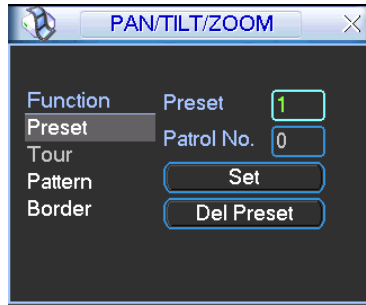
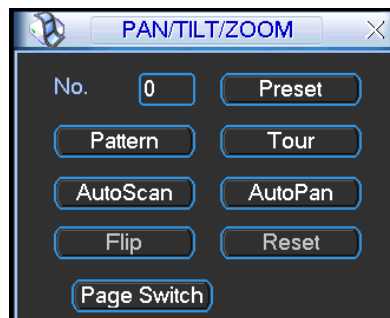
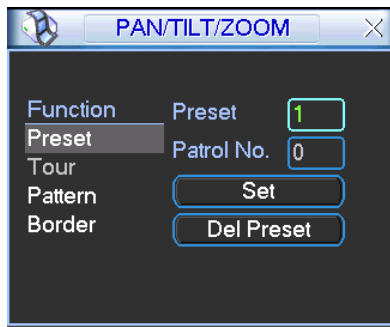

Figure 4-36
Figure 4-37
Figure 4-38
In Figure 4-33, please click the “set” button. The interface is shown as below. See Figure 4-36. Here you can set the following items:
In Figure 4-33, click page switch button, the interface is shown as in Figure 4-37.
- The following setups are usually operated in the Figure 4-33, Figure 4-36 and Figure 4-37 .
In Figure 4-36, click preset button and input preset number. The interface is shown as in Figure 4-38.
In Figure 4-37, please input preset number in the No. blank, and click preset button.
In Figure 4-36, click patrol button. The interface is shown as in Figure 4-39. Input preset number and add this preset to a patrol (tour). For each patrol (tour), you can input max 80 presets.
In Figure 4-36, input patrol (tour) number in the No. blank and click patrol button
In Figure 4-36, click pattern button and then click “begin” button. The interface is shown as in Figure 4-40. Then you can go to Figure 4-33 to modify zoom, focus, and iris.
In Figure 4-37, input mode value in the No. blank, and click pattern button.
In Figure 4-36, click border button. The interface is shown as in Figure 4-41.
In Figure 4-37, click “Auto Scan” button, the system begins auto scan. Correspondingly, the auto scan button becomes Stop button. Click stop button to terminate scan operation.
In Figure 4-37, click page switch button, you can see an interface is shown as below. See Figure 4-42. Here you can set auxiliary function. The aux value has relationship with the Aux button of the decoder.